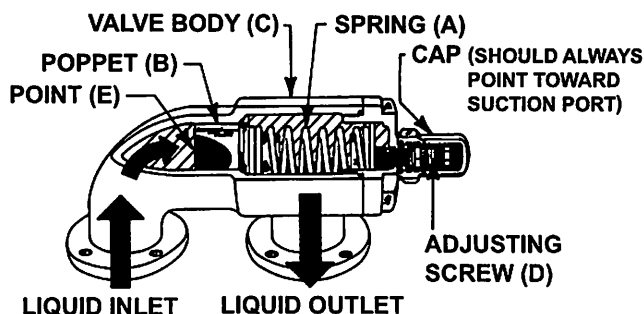

FIGURE 4
The pressure relief valve mounted on Viking pumps and most in-line valves are of the spring loaded poppet design See Figure 4. The spring (A) holds poppet (B) against the seat in the valve body (C) with a given force determined by the spring size and by how tightly it is compressed by the adjusting screw (D). The pump discharge pressure pushes against the underside of the poppet at point (E). When the force exerted by the liquid under the poppet exceeds that exerted by the spring, the poppet lifts and liquid starts to flow through the valve. As the discharge pressure builds up, more and more of the liquid flows through until a pressure is reached at which all of the liquid being pumped is going through the valve. This pressure is the relief valve setting.